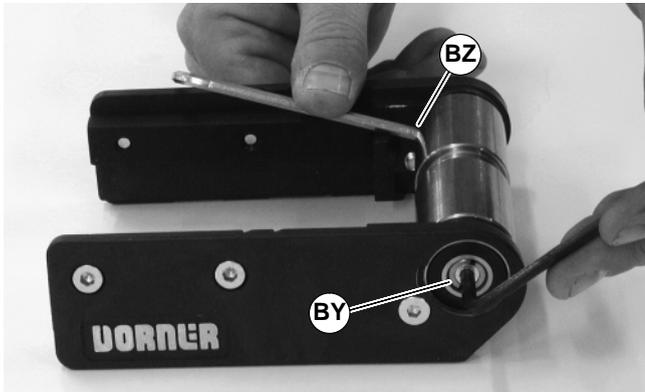

Figure 45
3. With 4mm hex-key wrench, loosen pulley taper screw (BY of Figure 45). Steady pulley with second hex-key wrench (BZ) inserted into pulley hole. Repeat procedure for opposite side of pulley.